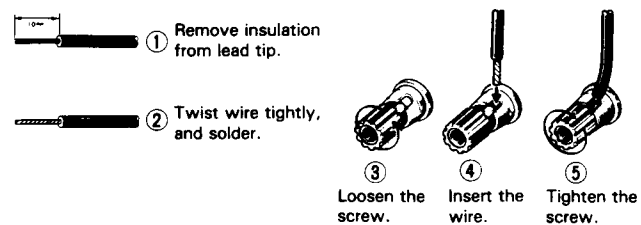

Fig. 3 Connecting speaker cords
1. Connect the left speaker to the LEFT SPEAKERS terminals and the right speaker to the RIGHT SPEAKERS terminals (Fig. 3).